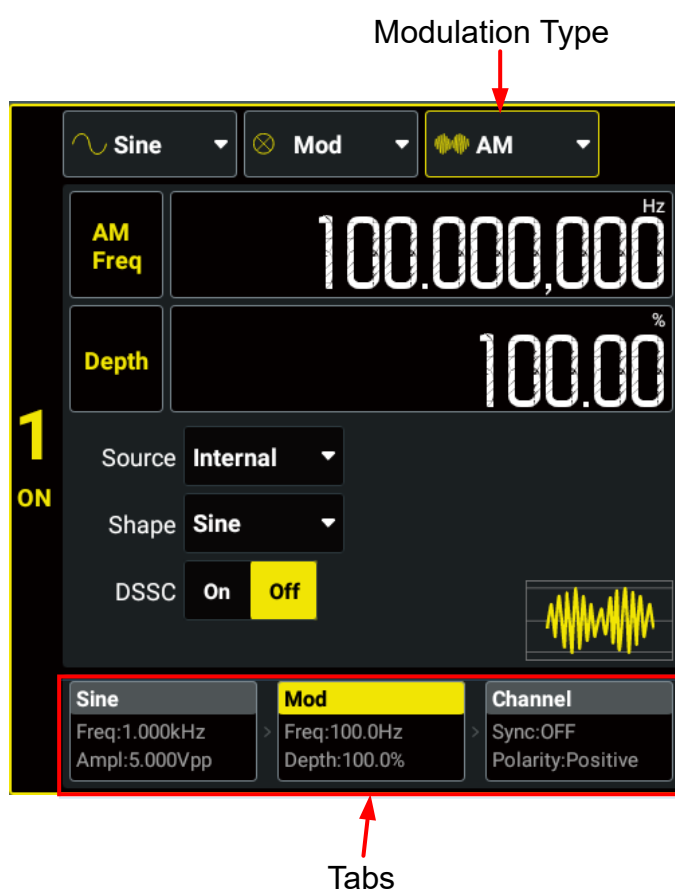

Figure 6.1 Modulation Setting Interface
Interface" (*Figure 6.1*), click or tap the "Modulation Type" drop-down button to select "AM" and set its parameters.
6.2 Frequency Modulation (FM)
In Frequency Modulation (FM), a modulated waveform consists of a carrier waveform and a modulating waveform. The frequency of the carrier waveform is varied by the instantaneous voltage of the modulating waveform. In the "Modulation Setting Interface" (*Figure 6.1*), click or tap the "Modulation Type" drop-down button to select "FM" and set its parameters.
6.3 Phase Modulation (PM)
In Phase Modulation (PM), a modulated waveform consists of a carrier waveform and a modulating waveform. The phase of the carrier waveform is varied by the instantaneous voltage of the modulating waveform. In the "Modulation Setting Interface" (*Figure 6.1*), click or tap the "Modulation Type" drop-down button to select "PM" and set its parameters.
With Amplitude Shift Keying (ASK), you can configure the instrument to "shift" its output amplitude between two preset values (called the "carrier amplitude" and the "modulation amplitude"). In the "Modulation Setting Interface" (*Figure 6.1*), click or tap the "Modulation Type" drop-down button to select "ASK" and set its parameters.